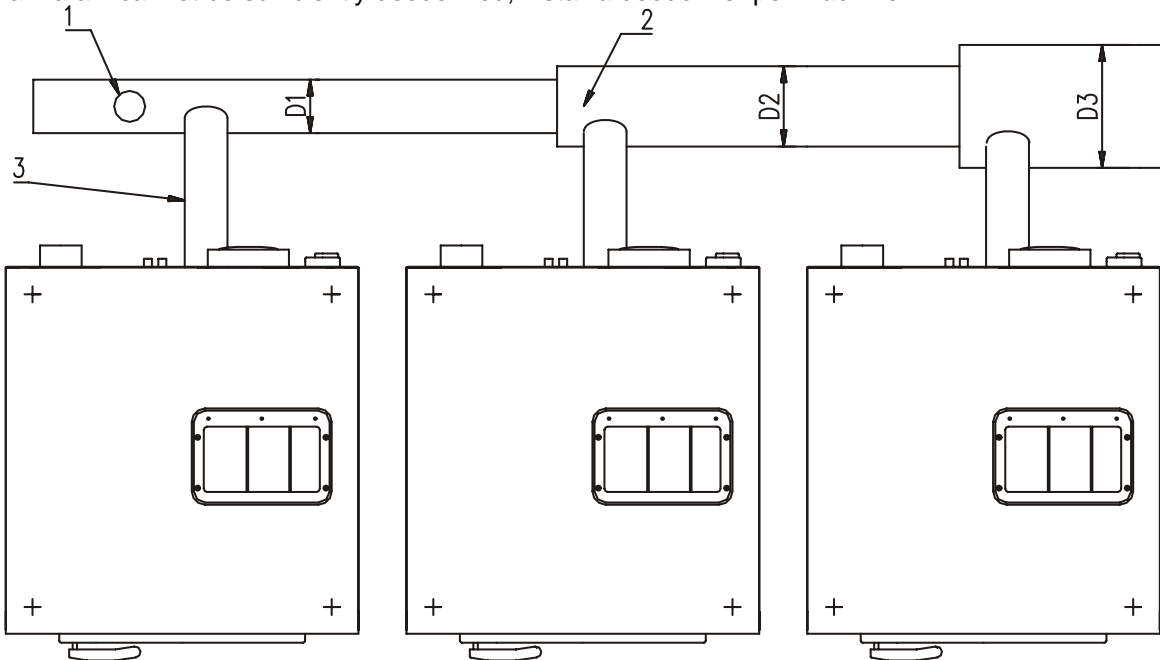

Fig.4.4.D. Recommended drain pipe diameters
The main drain pipe must have the capacity to be able to handle the total output of all connected machines. There must also be a hole every twenty meter in the drainpipe, fig.4.4.D.,pos.1 to assure the good working of the drain. This allows air in the main drain and facilitates drainage of the water flow. Every time a machine is coupled on the drainpipe, the diameter of the tube or the width of the waste channel must be more.
See, fig.4.4.D.,D1, D2, D3.